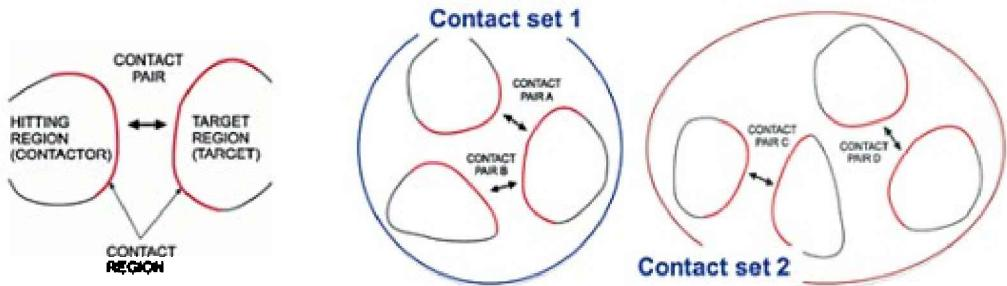
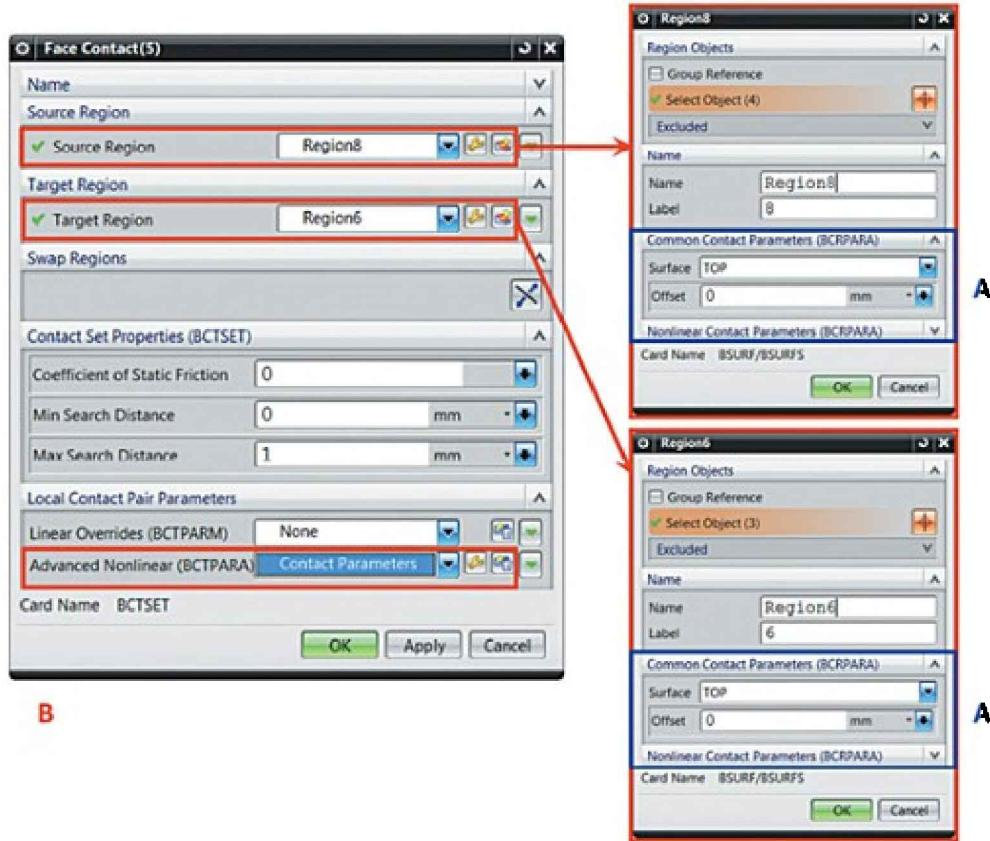

Figure 4.10. Contact sets, pairs, and regions
Figure 4.11. Contact interaction parameters
Contact interaction (referred to as contact) is modelled using *contact sets*, *regions*, contact segments, and contact pairs (Figure 4.10). When you specify contact, you need to control the choice of the parameter set: *BCRPARA* for the contact region, *BCTP PARA* for the contact set. Parameters of strategy parameters *NXSTRAT* are additionally used. Contact constraints can be created for the simulated model using the **Surface-to-Surface Contact** command that is described in detail in Chapter 4 of Part 1.
1. Create contact regions that can consist of a set of 3D element faces and 2D elements. These are the regions where contact is expected to occur. For algorithm execution, the regions are split into so-called contact segments. If necessary, you can specify *BCRPARA* parameters for the contact regions (Figure 4.11, A), for example, you can set a contact offset and specify the contacting side of a shell element.
2. Create contact pairs out of regions, then create contact sets that consist of contact pairs (Figure 4.10). A contact pair consists of two contact surfaces that may come in contact. One of the surfaces is called the contact, or source surface, and the other is called the target surface. In the solution of the problem, the nodes of the source surface and the segments of the target surface come in contact. The nodes of the source surface cannot penetrate the segments of the target surface, while the nodes of the target surface can. *BCTPARA* parameters of contact sets allow friction to be accounted for, and the selection of contact type, contact algorithm and much more (Figure 4.11, B). If the model contains several contact sets, each set can have its own *BCTPARA* parameters.
A constant friction coefficient is used by default. It can be set in the *BCTSET* parameters. There are several friction models with different laws [23] that can be set with the *FRICMOD* parameter in the *BCTPARA* set of contact parameters (Figure 4.11, B).